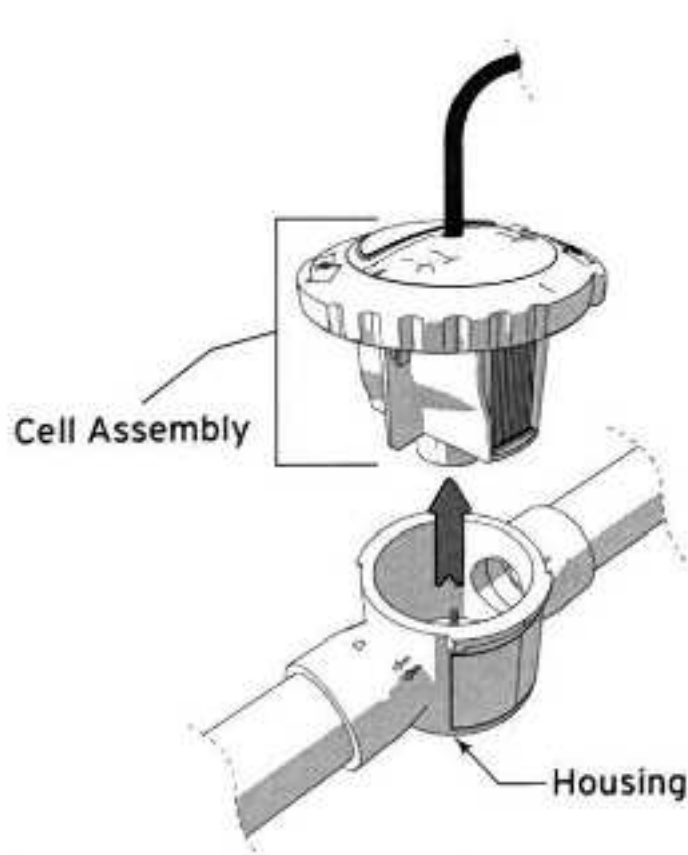

Figure 2. Remove Cell Assembly
4. Lift cell assembly straight out of the housing. See Figure 2.